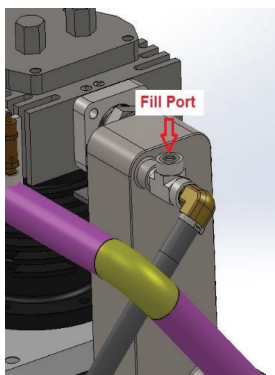

Figure 23: Fill Port Location
3. Open the fill port to allow air into the system, this will allow the system to drain faster. (See Figure 23)
3. Open the fill port and fill with water glycol mix. (See Figure 23)